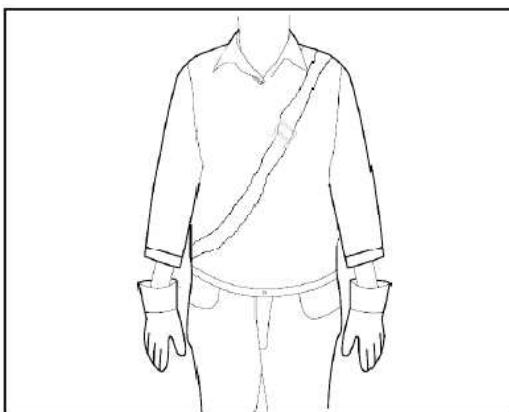

Fig. 5
1. Place the harness (17) so that it runs over the left shoulder, crossing the breast and the back (Fig. 5).